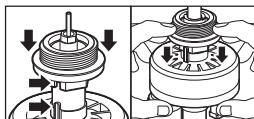

Figure P4
5. Install the 1" threaded adapter by pushing it onto the actuator stem and making sure the notch on the adapter lines up with the notch on the stem of the actuator (Figure P4).